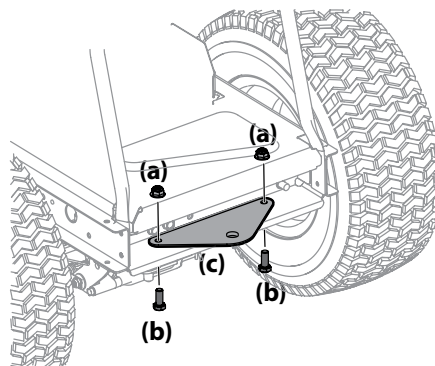

Figure 2-12
1. Remove the factory installed bolts (a) and hex nuts (b) located on the rear of the riding mower. See Figure 2-12.
2. Position the hitch plate (c), packed with the loose parts, with the flat side up as shown in Figure 2-12. Secure using the two bolts (a) and hex nuts (b) removed in step 1.